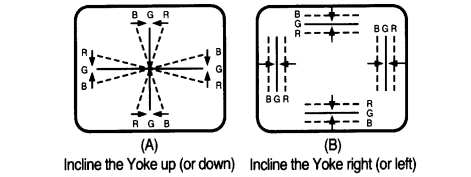

FIG. 2 CIRCUMFERENCE CONVERGENCE BY DEF. YOKE
- 3. Tilt the deflection yoke up and down, and insert tilt adjustment wedges 1 and 2 between the deflection yoke and the CRT until the mis-convergence illustrated in figure. 2 (A) has been corrected.
- 4. Tilt the deflection yoke right and left, and insert tilt adjustment wedge 3 between the deflection yoke and the CRT until mis-convergence illustrated in figure. 2 (B) has been corrected.